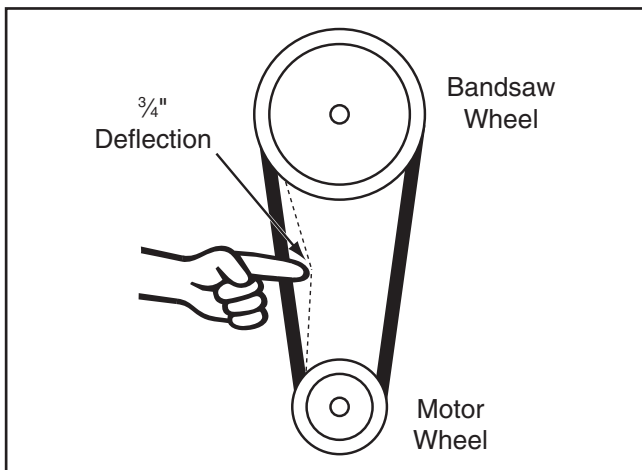

Figure 94. V-belt deflection.
4. Check the V-belt tension by applying moderate pressure between the pulleys (see **Figure 94**). If deflection is not approximately $\frac{3}{4}$ ", re-tension the V-belt following the same steps you normally use when changing blade speeds (refer to **Blade Speed** on **Page 52** if necessary).